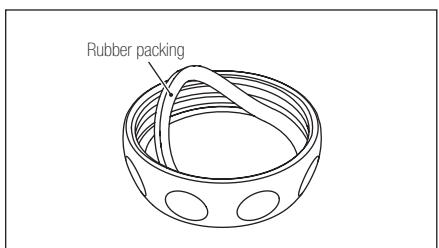

Fig.13
- Remove the rubber packing and disassemble the powder case cap. (Fig. 13)